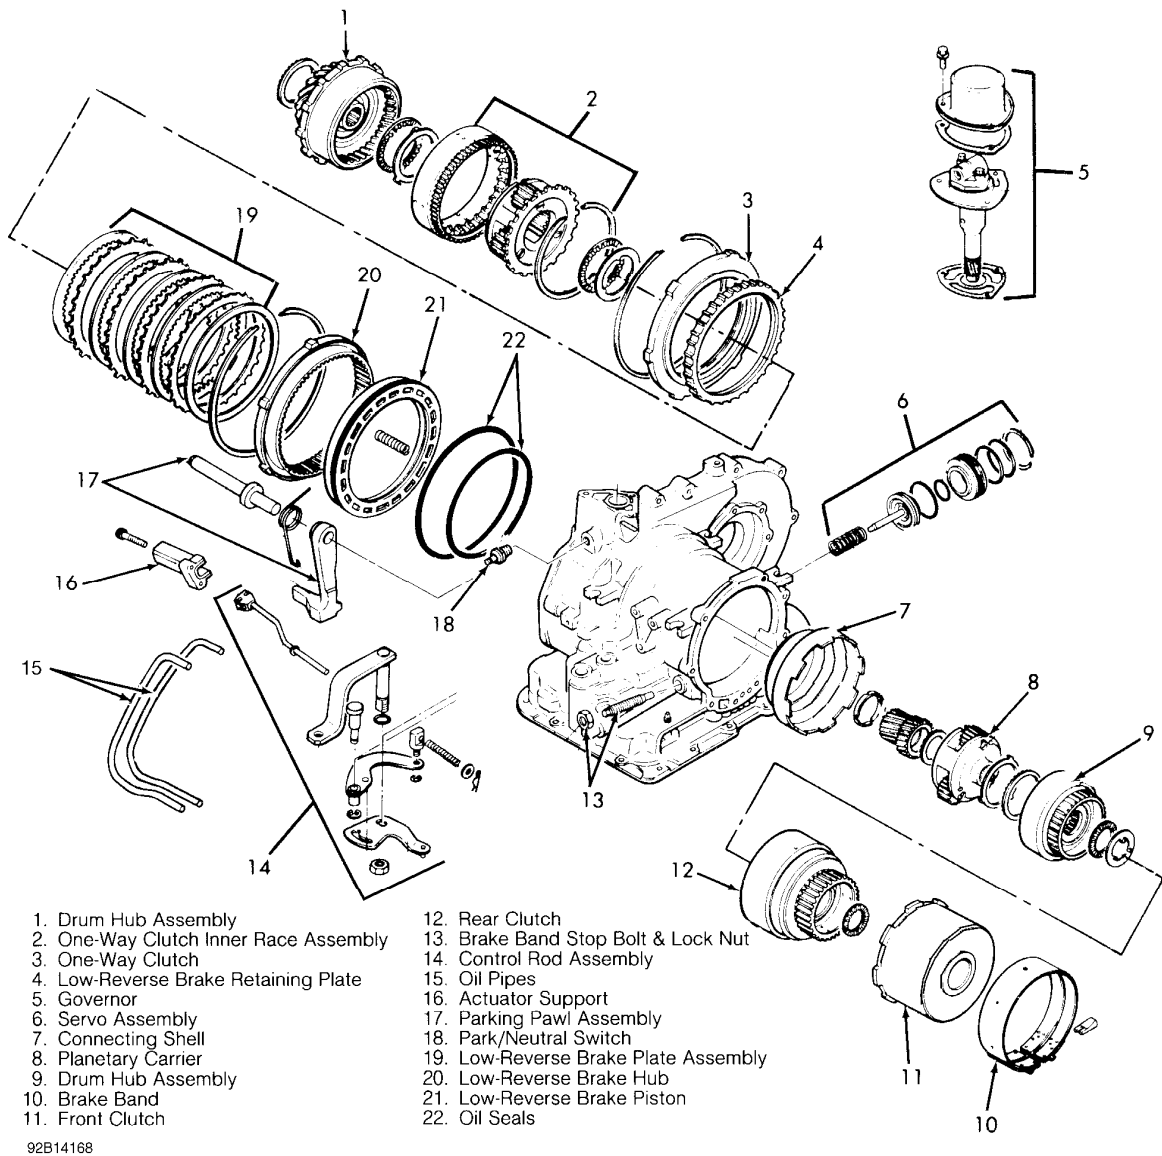

Fig. 8: Exploded View Of Transaxle Housing & Primary Components
- 4. Remove oil pump. If oil pump is difficult to remove, tighten band adjusting stop bolt 106-133 INCH lbs. (12-15 N.m) and then remove oil pump. Remove brake band adjustment stop bolt, lock nut, band strut and band. See Fig. 8 . Store band partially closed with a piece of wire.
- 6. Remove the sun gear, spacer and connecting sun shell. See Fig. 8 . Using "C" clamp and socket, compress servo piston with and remove
7. Remove differential assembly. Remove oil pipes and parking pawl assembly. Remove drum hub assembly. Remove one-way clutch inner race assembly. See Fig. 8 . Remove rear planetary carrier with needle bearing and thrust washer. Before disassembling one-way clutch, measure and record clearance between one-way clutch and low-reverse brake retaining plate. Clearance should .032-.041" (.8-1.05 mm).